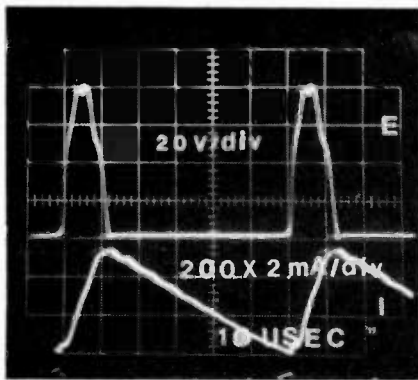

Fig. 8. Voltage and current into the horizontal windings of a deflection yoke.
An RCA CTC 108, for instance, produces a horizontal yoke sawtooth of 520 mv/div  $\times 2$  for current, in addition to a peak voltage display of 800 volts (Fig. 8). In terms of rms resistive power this amounts substantially to  $E_{\text{max}} \times I_{\text{max}} \times 0.707$ , or  $1040 \text{ ma} \times 800 \text{ v} \times 0.707$  equals 588 w, since we really don't know the actual value of the usually low yoke inductance. But if this was necessary, then  $I_{\text{rms}} \cdot E_{\text{rms}} / L$ , which when transposed becomes  $2\pi f l = E_{\text{rms}} / I_{\text{rms}}$ ; and the inductance at 15,734Hz is calculated as  $L = E_{\text{rms}} / I_{\text{rms}} \times 6.28 \times 15,734 \text{ Hz}$ , or  $565.6 / 72674.4 = 7.78 \text{ mHys}$ . Thereafter, Impedance (Z) rms =  $800 / 1.04 = 769 \times 0.707 = 543.68$  ohms.